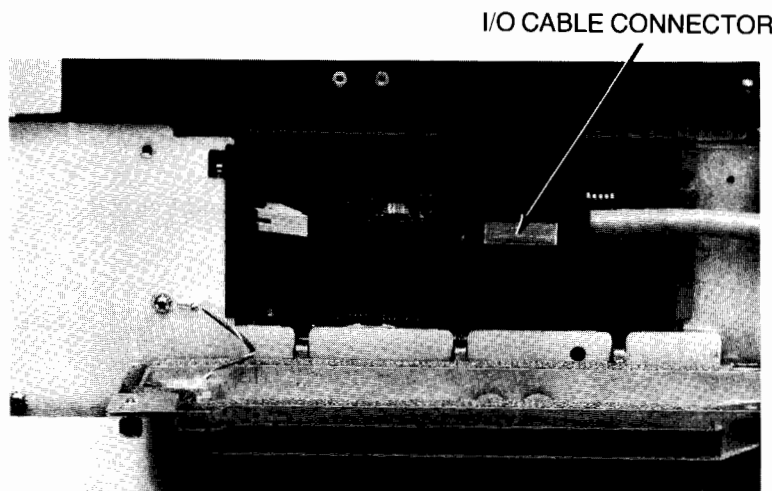

Figure 4-11. Disconnecting I/O Cable
4. Disconnect I/O cable connector from I/O card to be replaced (Figure 4-11).